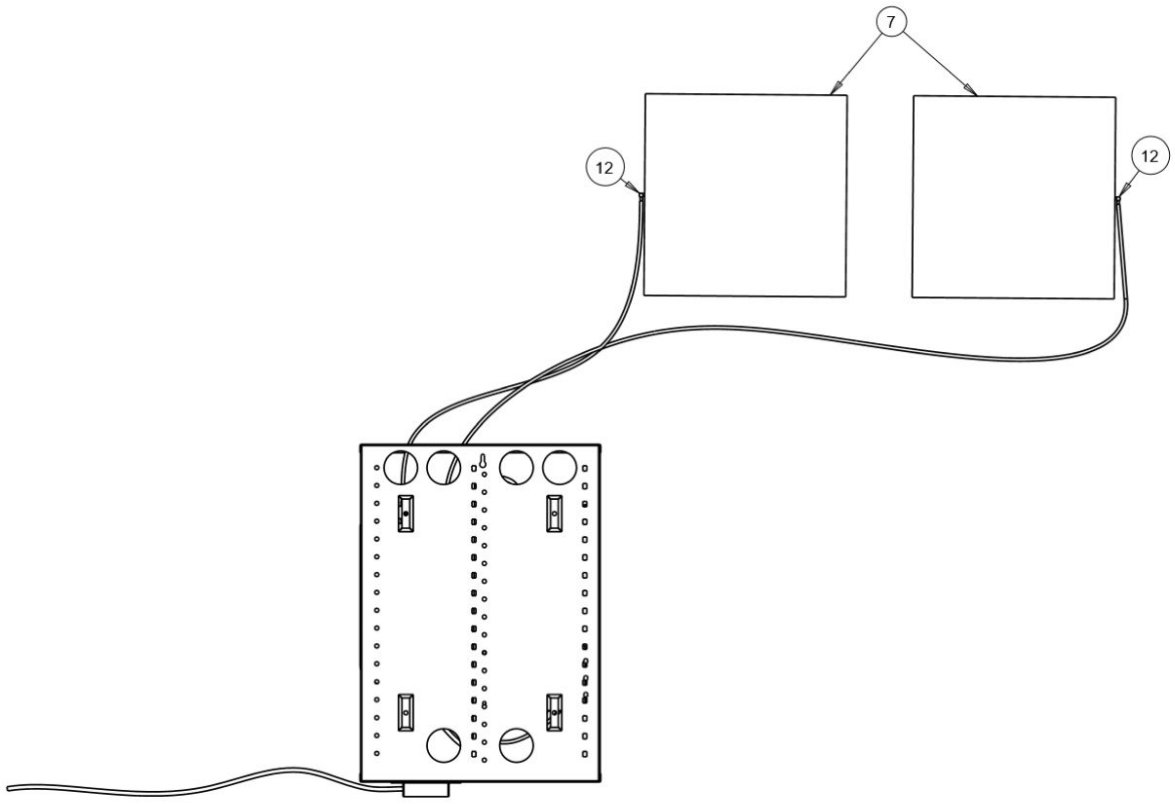

Figure 3: Service Box--to-Antenna Module Connections
4. Connect SMA cables to outer edge of each antenna module as shown in figure 3.